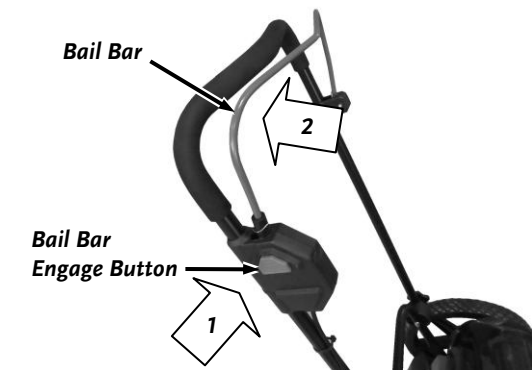

Figure 7a (Non Self Propelled)
1. Hold the Bail Bar Engage Button down with one hand as you pull the Bail Bar to the Handlebar with the other hand (**Figure 7a and 7b**).